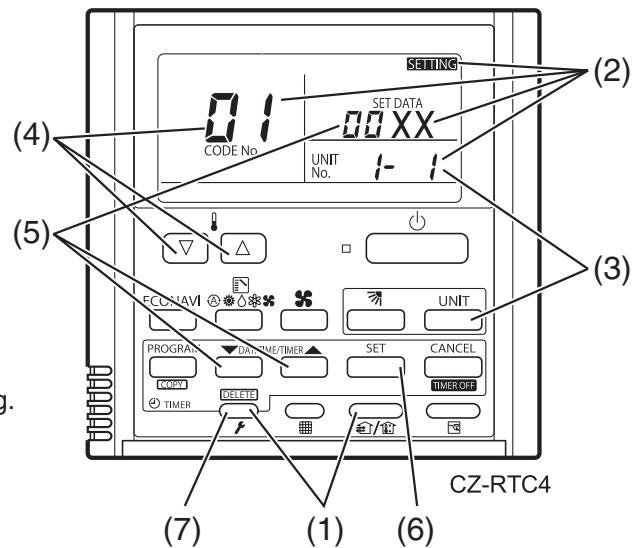

Fig. 7-1
- "**SETTING**", unit No. "**1-1**" (or "**ALL**" in the case of group control), item code "**01**," and settings data "**00XX**" are displayed blinking on the remote controller LCD display (Fig. 7-1). At this time, the indoor unit fan (or all indoor unit fans in the case of group control) begins operating.